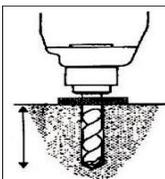

Fig. 17
- Drive a  $\Phi 18$  percussion bit to depth in the ground from the holes on the baseplate with an electric hammer (Fig. 17), and clean the hole.